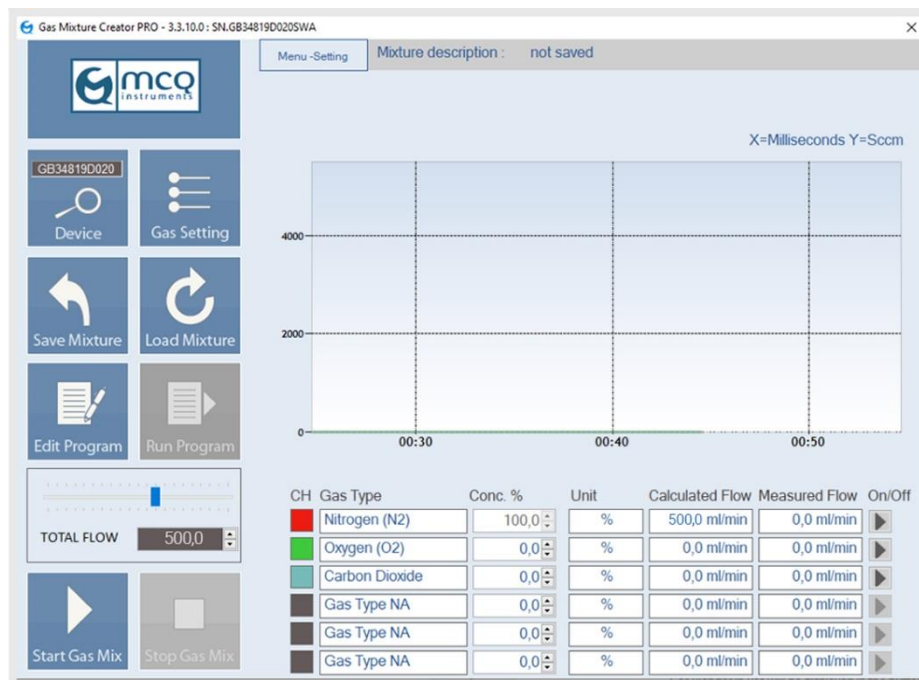

Figure 5-11
4. In case you have not done it before, connect the instrument to your PC with the USB cable provided in the package. The serial number of the Gas Blender in use will be displayed in the button "**Device**". (Figure 5-11)